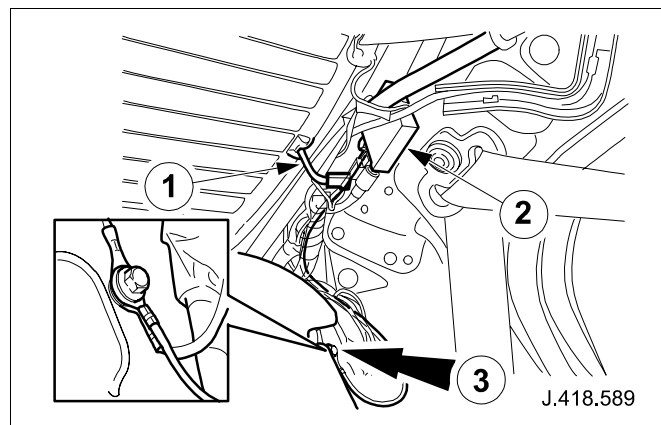

Fig. 3
- 5 Disconnect antenna module coax connector from the module. (Using a suitable multimeter with appropriate ohm setting). Connect one probe to earth point on the antenna module and the other probe to the local earth point on the rear bulkhead behind the seat squab trim. (As indicated at 3 Fig. 3)